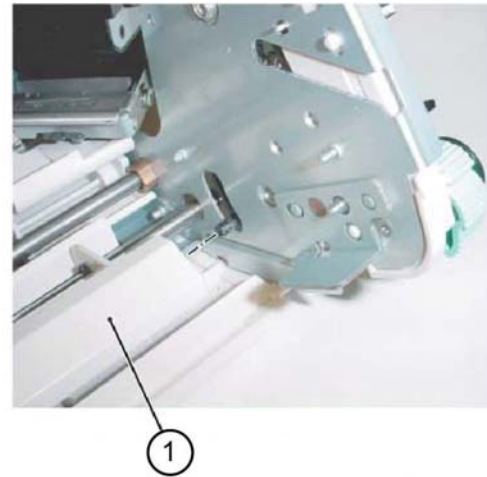

Figure 9 Paddle link assembly installation
2. Install the paddle link assembly (1) as shown in **Figure 9**.